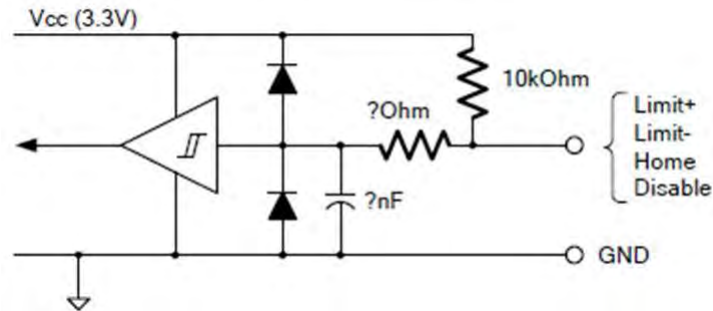

Figure 3. Control lines electrical interface.
Control lines, i.e.: Home, Limit+, Limit- and Disable share the same electrical interface shown in Figure 3.
- Activation is defined by their interaction with the input circuitry described in Figure 3.